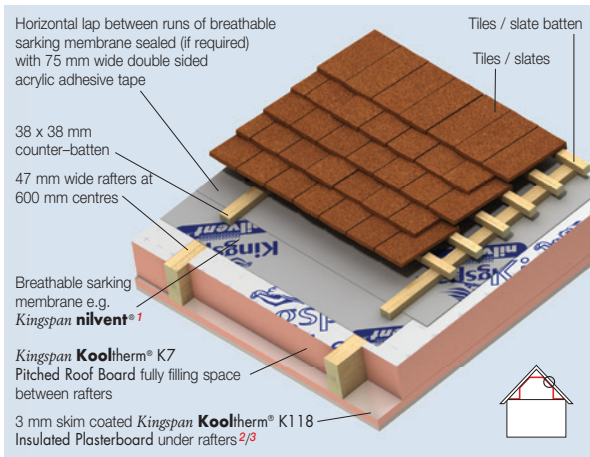

Figure 1a
NB When calculating U-values to BS EN ISO 6946: 2017 / I.S. EN ISO 6946: 2007, the type of mechanical fixing used may change the thickness of insulation required. The effect of fixings for Kingspan Kooltherm® K118 Insulated Plasterboard in the U-value calculations for Figures 1a, 1b, 1c, 1d, 2a, 2b, 4a & 4c is insignificant as the insulation layer penetrated is not the main insulation layer. The U-value calculations for Figures 3a & 3b assume that over rafter layers of insulation are fixed using stainless steel fixings with a cross sectional area 7.45 mm², with 3.7 fasteners per m² (insulant thickness 0–40 mm), 6.2 per m² (insulant thickness 41–60 mm), 8.3 per m² (insulant thickness 61–80 mm) and 10.0 per m² (insulant thickness 81–100 mm). The U-value calculations for Figures 3a & 3b also assume that over rafter layers of insulation are fixed using stainless steel fixings with a cross sectional area 9.1 mm², with 11.1 fasteners per m² (insulant thickness 101–125 mm). Please contact the Kingspan Insulation Technical Service Department (see rear cover) for project calculations.
- ¹ In Figures 1a & 3a the breathable sarking membrane can be placed over the counter-battens, draped to provide for drainage and overlain with tile / slate battens. This will yield a marginally better U-value but it will be more difficult to seal the breathable sarking membrane effectively.